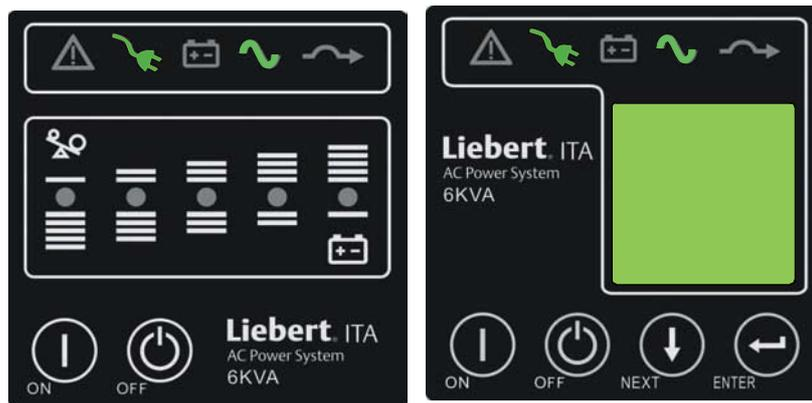

Figure 2-30 Indicators' status
3. Press the ON/SILENCE key for more than one second, and wait for thirty seconds, the UPS will enter the inverter standby mode automatically, at this time, the inverter indicator blinks. After the UPS has output, the inverter indicator will be on, as shown in Figure 2-30.